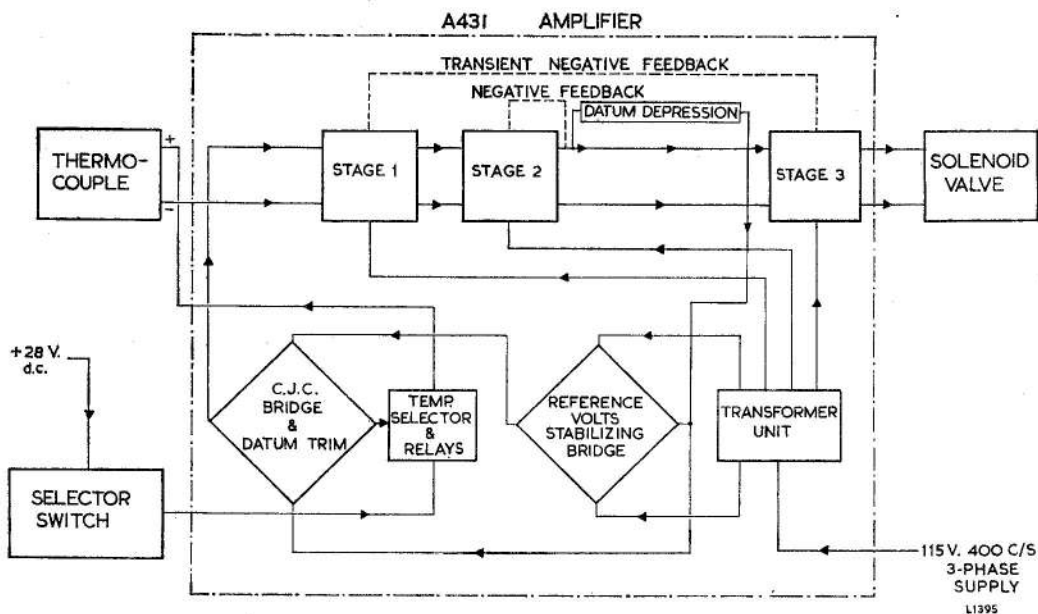

Fig. 4. Block schematic diagram of amplifier stages
5. A block schematic diagram (*fig. 4*) illustrates the basic principle of the jet-pipe temperature control system with the respective amplifying stages. A three-phase input is applied to the transformer unit which provides the power supplies for the amplifying stages and the stabilizing bridge.